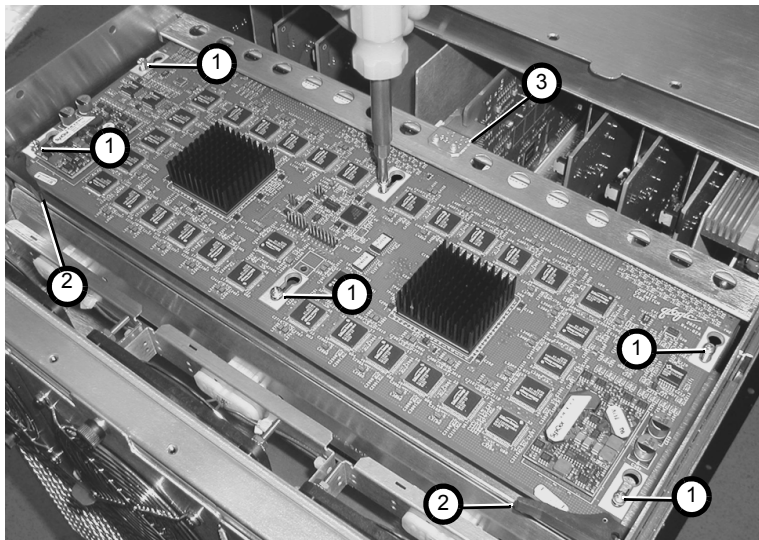

Figure 6-5. CC Blade Removal
7. Remove the CC blade. Loosen the six screws (1) that fasten the CC blade to the chassis as shown in Figure 6-5, but do not remove them. The three screws nearest the latches (2) need only be loosened a couple turns. The three screws nearest the backplane (3) must be backed off about 3/8 of inch to allow enough clearance to remove the blade.